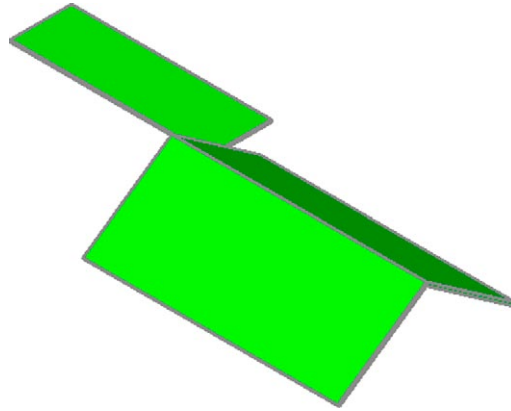

Fig. 16.14 First example – **Realistic** view of the roofs
10. Make the layer **Roofs** current and construct outlines of the roofs (main building and garage) (see Fig. 16.14).